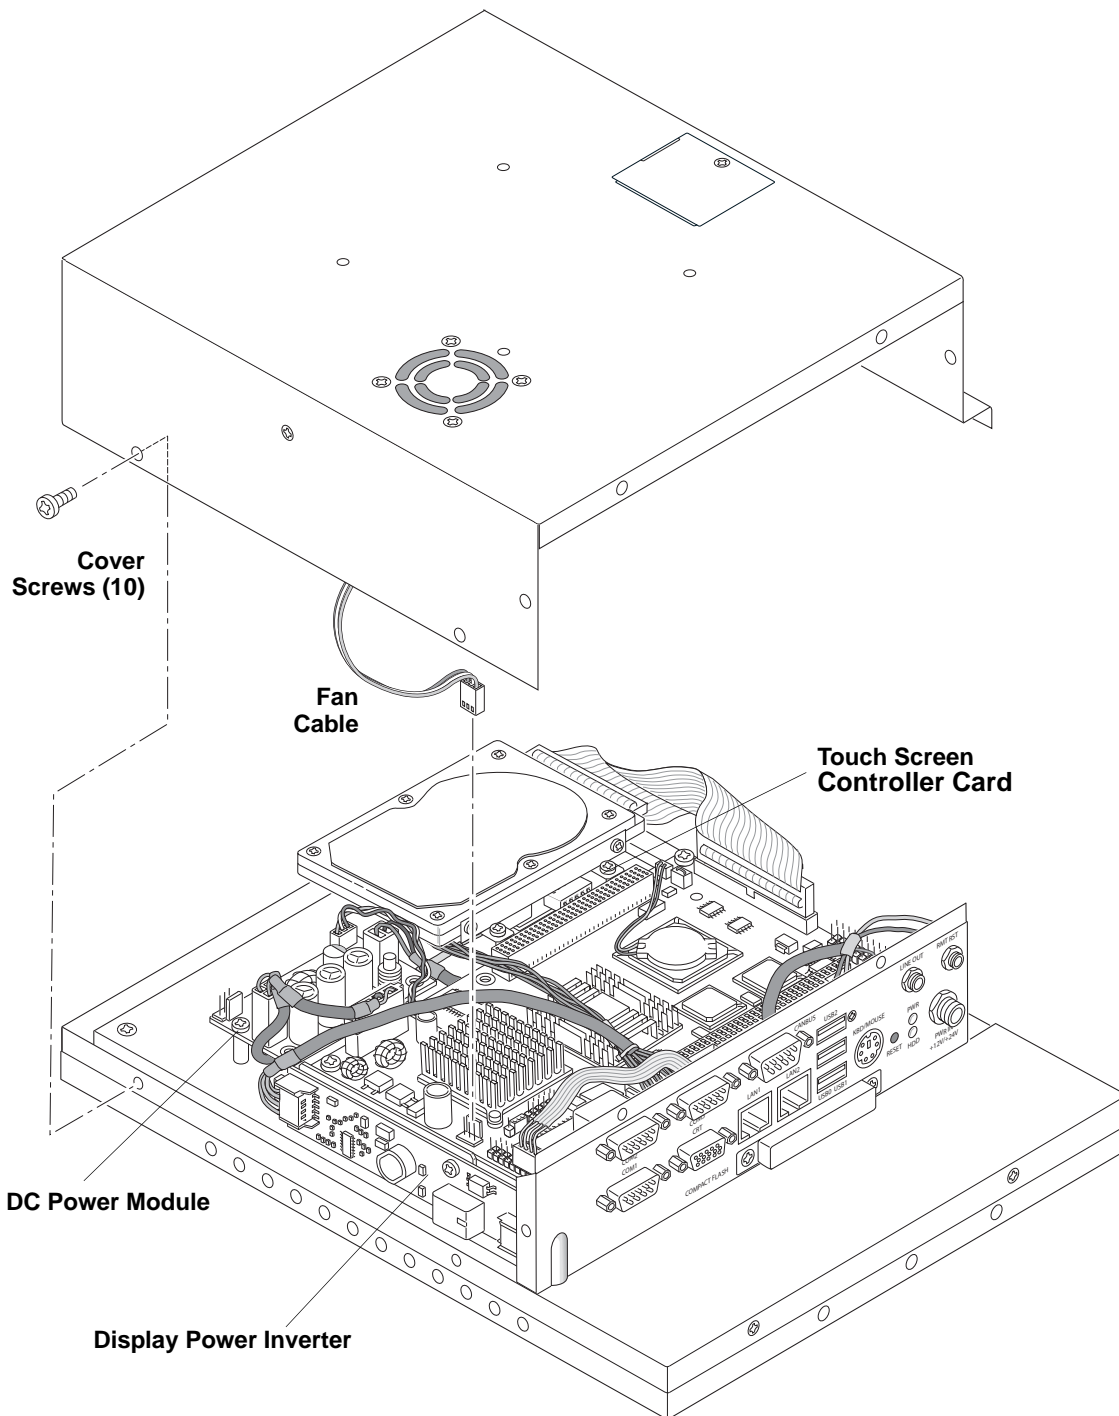

Figure 2-1. Exploded View of ReadyPanel Assembly with Cover and Screws
4. Remove the cover from the ReadyPanel enclosure. See Figure 2-1.